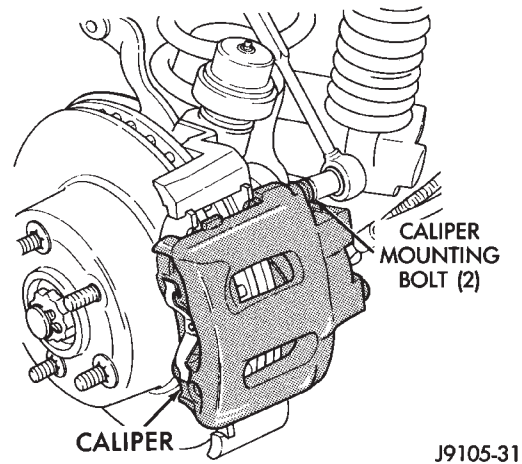

Fig. 27 Caliper Mounting Bolts
(4) Remove caliper mounting bolts (Fig. 27).